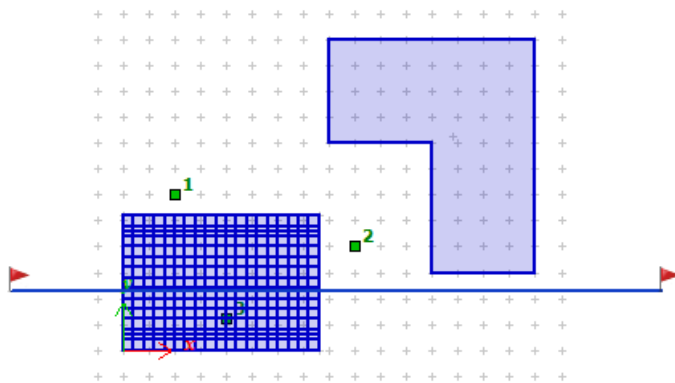

Figure 17.5. Defining the soil profile line
- ⇒ Specify (in sequence) on model the beginning and the end of the soil profile line (see Fig. 17.5).